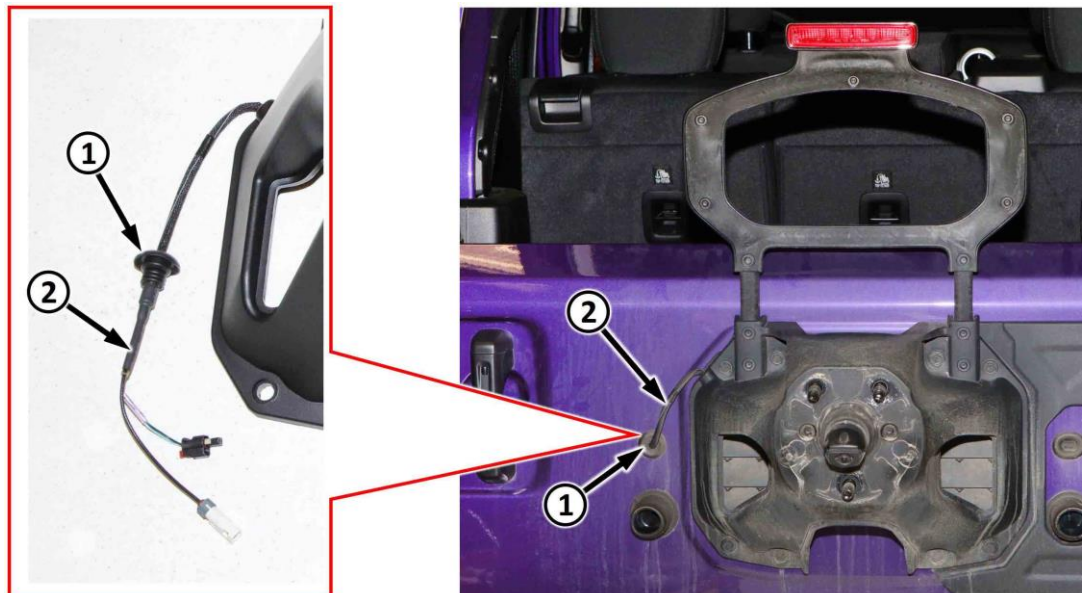

Figure 8 – Tire Carrier Wire Harness
14. Release the wire harness grommet (1) from the swing gate then carefully feed the wire harness with electrical connectors (2) out of the swing gate (Figure 8).
21. Carefully feed the wire harness (2) with electrical connectors into the swing gate then install the wire harness grommet (1) to the swing gate (Figure 8).